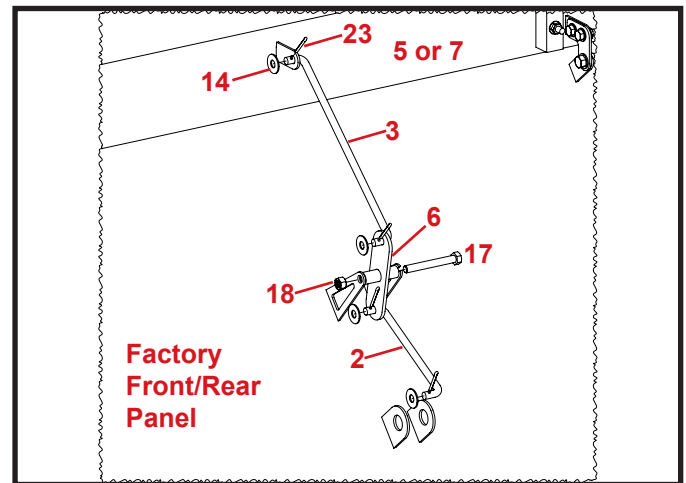

Figure 11
Attach the Tip-Up Pivot (6) to the factory front panel using the 3/8" x 3" hex bolts (17) and 3/8" nylock nuts (18) provided. Attach the Upper Rod (3) to the Front Panel Assembly (5) using the 1/8" dia. cotter pins (23) and 3/8" flat washers (14) provided. In the same manor, attach the opposite end of the Upper Rod (3) to the Tip-Up Pivot (6), the Lower Rod (2) to the Tip-Up Pivot (6), and the Lower Rod (2) to the mounting point on the factory front panel. See Figure 11.